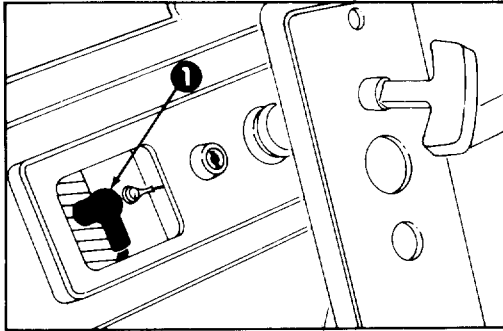

Figure 16
2. **REMOVE SPARK PLUG (Fig. 16)** – Pull wire off spark plug and remove plug. Examine the plug and replace if cracked, fouled, or